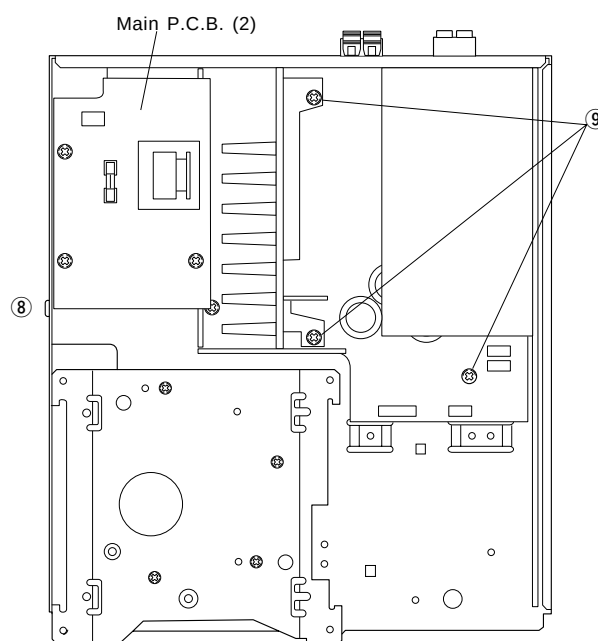

Fig. 7
- Remove 1 screw (⑧) and then remove the Main P.C.B. (2) in Fig. 7.
- Remove 3 screws (⑨) in Fig. 7.